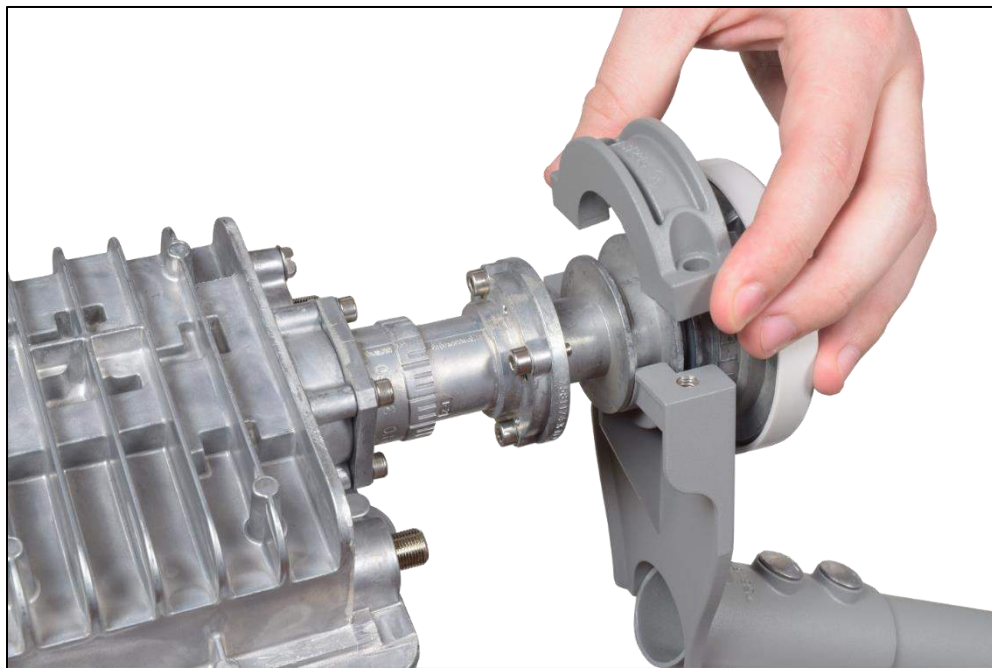

Figure 20: Securing the radio – Step 1
Place the feedhorn into the cradle of the top bracket, as shown in Figure 20.
1. Align the top bracket as shown in Figure 20.